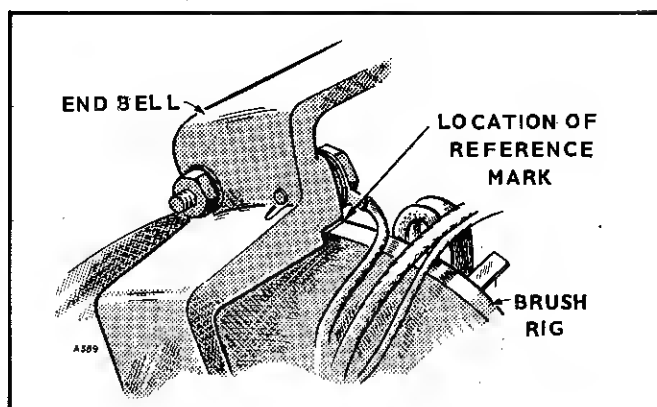

FIGURE 90. BRUSH RIG POSITION
**Brush Rig Alignment:** Align the brush rig to the neutral position. Normally, the neutral position is identified by a yellow mark extending from the brush rig to the endbell (Fig. 90). If the mark is lost or a new brush rig installed, find the neutral position according to the following instructions: